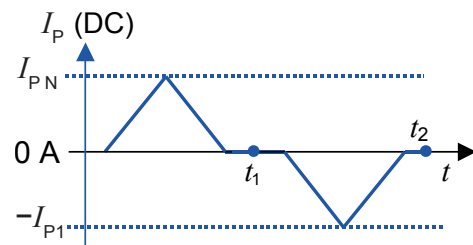

Figure 9: Current cycle used to measure magnetic and electrical offset (transducer supplied)
- Completely demagnetized, which is difficult to realize, or in a known magnetization state, like in the current cycle shown in figure 9.
Using the current cycle shown in figure 9, the electrical offset is: